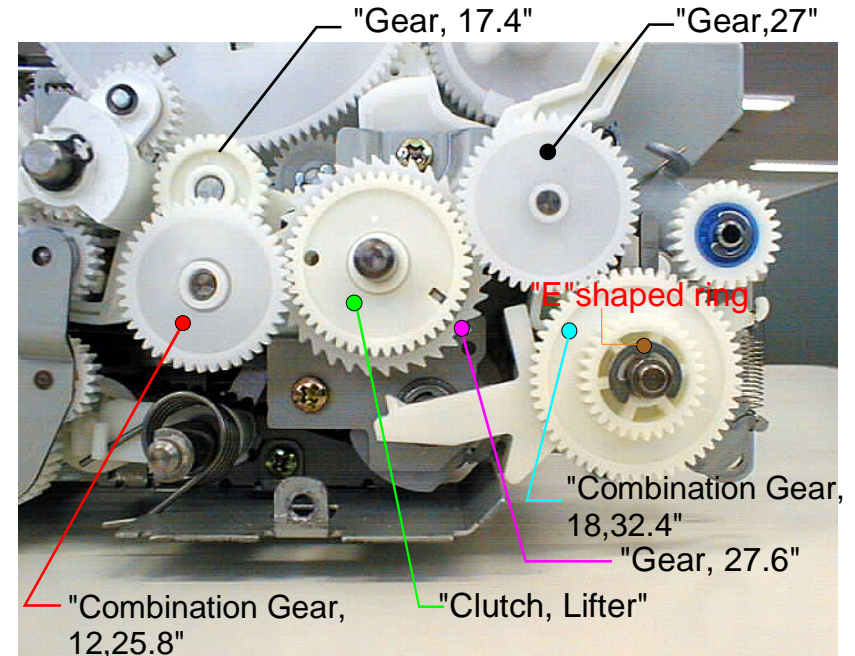

Figure 4-73. Gears of "Lifter Gear Train" Removal
5. As it is shown in Figure4-73, remove gears according to the following order; 1."Combination Gear,12,25.8", 2."Gear,27", 3. "Clutch, Lifter" + "Gear,27.6", 4."E" shaped ring on the "Combination Gear, 18,32.4", 5. "Combination Gear,18,32.4". (Refer to Figure4-73)
- **Spring is installed between "Clutch, Lifter" and "Gear,27.6". In case of separating these 2 gears, refer to Figure4-73 ~4-76 and install them correctly.**